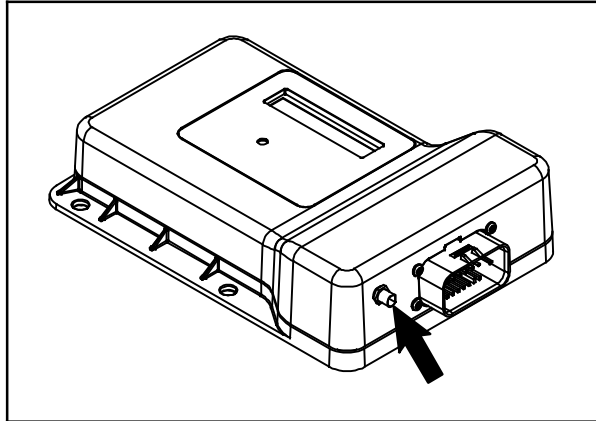

FIG. 21
23. Connect the antenna (16) cable to the telemetry control box (1). (Fig. 21)